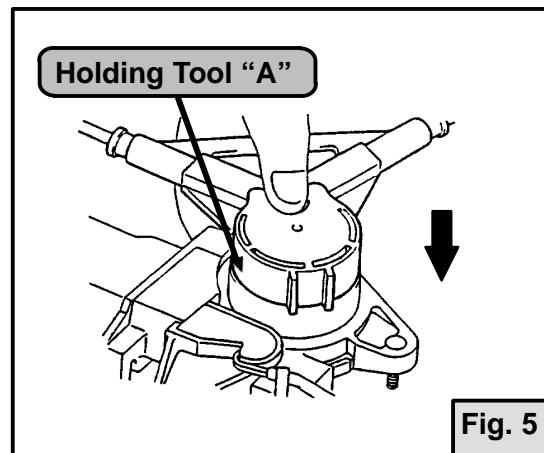

Fig. 5
- Using holding tool "A", match the holding tool with the motor housing. (See Fig. 5)